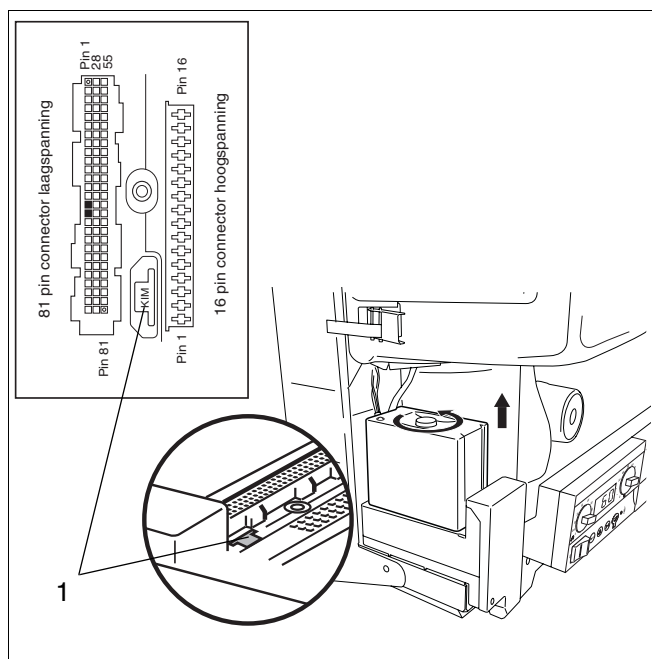

fig. 99 KIM connections
- Check if 4 pin connector (fig. 99, item 1) is fitted and secure.